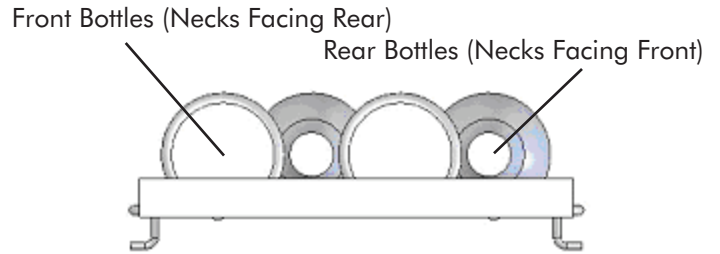
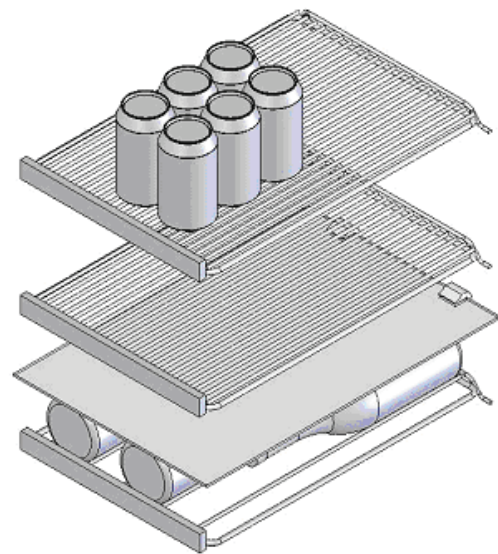

Figure 4
Figure 5
The wine rack pull-out shelf holds four (4) bottles. See Figure 4 for typical wine bottle orientation. The wine rack can be located at the middle or bottom part of the interior cabinet. For red wines, place wine shelf at bottom shelf position in the cabinet. Then put a glass shelf in the next higher position. For white and sparkling wines, put the wine shelf on the middle shelf position in the cabinet. Place the remaining shelves as desired (see Figure 5).